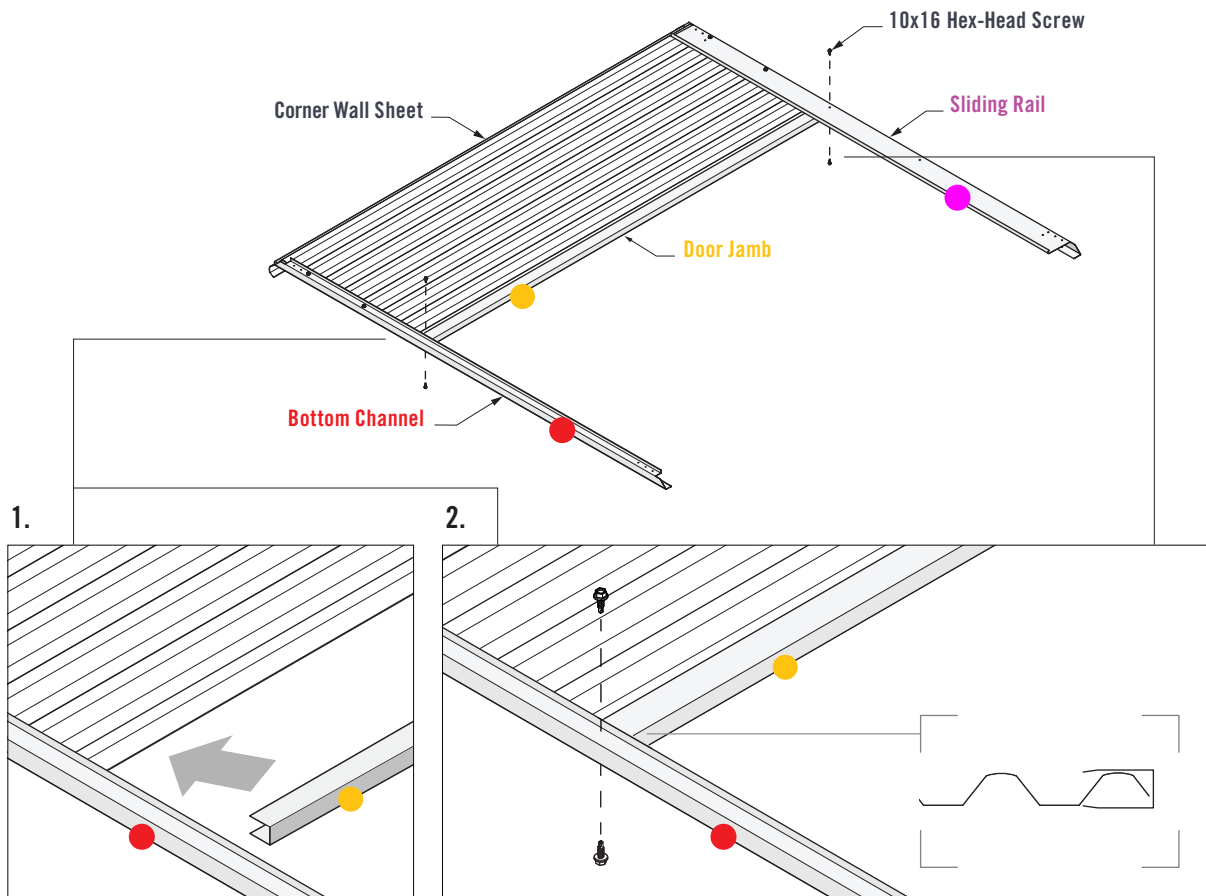

FIGURE 4.3
1. Fit the **Door Jamb** over the Corner Wall Sheet, ensuring it sits inside the **Bottom Channel** and **Sliding Rail** (Figure 4.3).
2. Fasten two 10x16 Hex-Head Screws through the pilot holes of the **Sliding Rail** and into the **Door Jamb**. Fasten two 10x16 Hex-Head Screws through the **Bottom Channel** and into the **Door Jamb** (Figure 4.3).